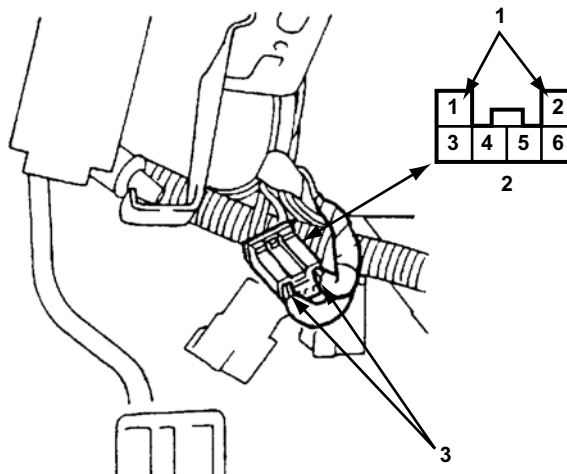

Figure 15-57 1998–2004 Impreza, 1995–99 Legacy, and 1998–2004 Forester Airbag (SRS) Diagnosis connector
- 1995–1999 Legacy/Outback, Sedan and Wagon (Figure 15-57)
- 1998–2004 Impreza Coupe, Sedan and Wagon (Figure 15-57)
- 1998–2004 Forester and Wagon (Figure 15-57)
1. With the key on and the engine off, install either diagnostic terminal into pin 1 or the airbag (SRS) diagnostic connector. The connector is located in the left lower dash panel area (Figure 15-57).